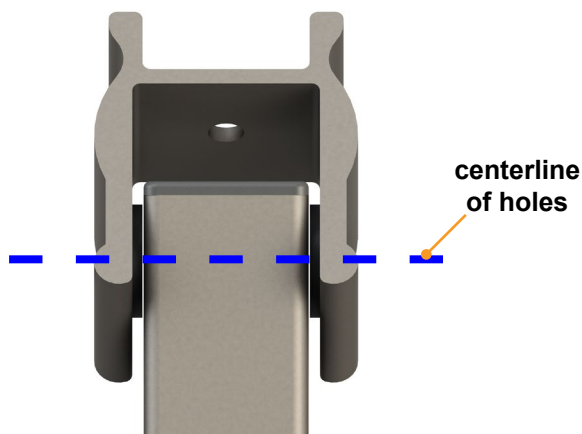

Fig.8
B. Place the H-bracket over the top of the front sport arm, aligning the hole of the snap bushings with the holes of the front sport arm (Fig.8).